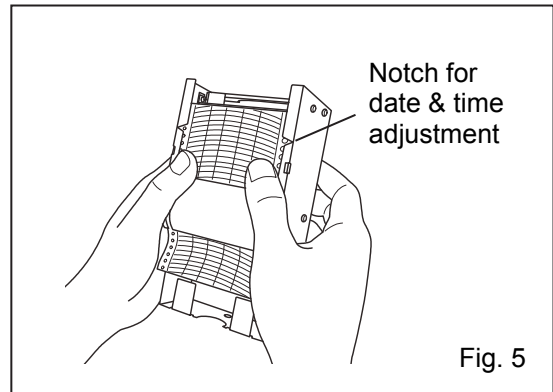

Fig. 5
5. Slide the recording paper along the guide plate so that the recording paper will not be forced out of the date & time adjustment slot. See Fig. 5.